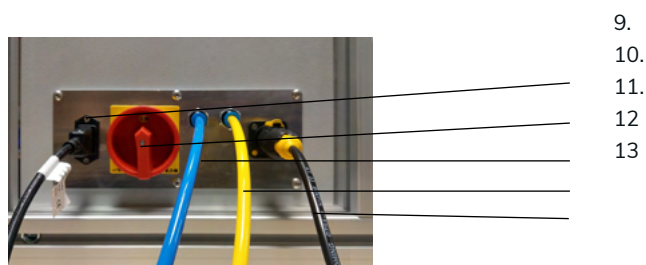

Figure 2: Backside of the Safety Cabinet
### Legend figure 2
2. Place the key in the key switch and turn 90 degrees clockwise to activate the bypass (figure 2)